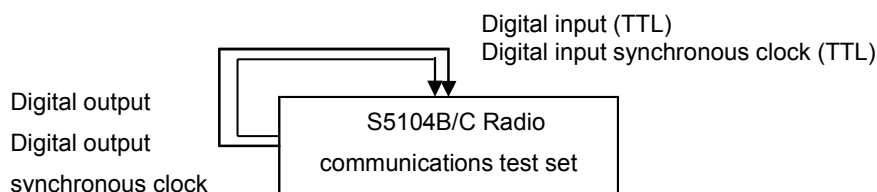

Fig. 6-17 Testing digital sequence generation and BER RX characteristics
1) As shown in Fig. 6-17, connect the digital output and digital input, digital output synchronous clock and digital input synchronous clock on the rear panel of S5104B/C;